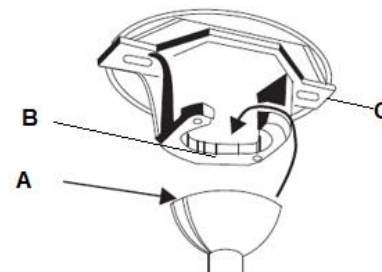

Fig. 7
Lift the fan assembly onto the mounting bracket. Ensure the registration slot (A) of the hanger ball is positioned on the stopper (B) of the mounting bracket (C) to prevent the fan from rotating when in operation. **Fig.7**
- Align the 3 holes of the blade (3) to the fan motor assembly (1).
- Secure the blade with 3 blade screws and lock washers (2) provided.